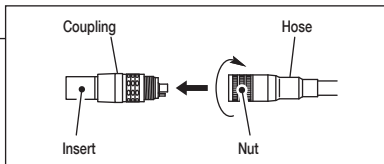

Fig. 7
- 1) Align the pipe of the coupling and the pipe hole of the hose, and push the coupling onto the hose. Hold the coupling tightly and fasten the nut of the hose securely. (Fig. 7)